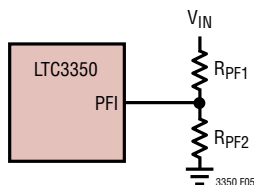

Figure 5. PFI Threshold Voltage Divider
where VPFI(TH) is 1.17V. Typical values for RPF1 and RPF2 are in the range of 40k to 1M. See Figure 5.